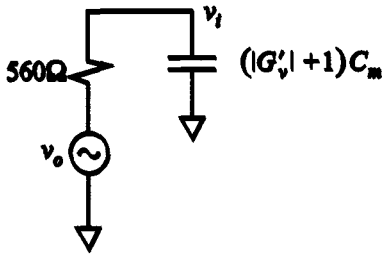

Figure 9.21. Equivalent circuit for extracting the Miller capacitance.
- Measure the magnitude of v_i at the maximum gain setting. We can use this to deduce the Miller capacitance, with the equivalent circuit in Figure 9.21 as a guide. In the circuit, we have a $560\text{-}\Omega$ source resistance and an open-circuit voltage $v_o = 2\text{ V}$, twice the amplitude setting. We will assume that the input impedance of the amplifier is dominated by the Miller capacitance and ignore the rest. Use the equivalent circuit to find an expression for the magnitude of v_i in terms of the Miller capacitance C_m .